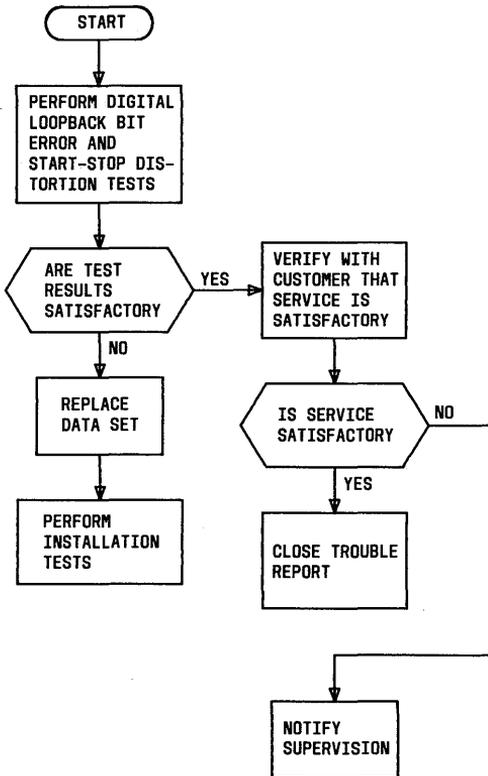

Fig. 4—Maintenance Test Sequence
**3.04** Refer to Fig. 4 for the sequence in which tests are to be performed by the telco employee at the data station. If the data set is replaced, the defective data set should be tagged with a description of the trouble, carefully packed, and returned to a service center for repair. Verify that the replacement data set is equipped with the proper options before placing the data set in service.